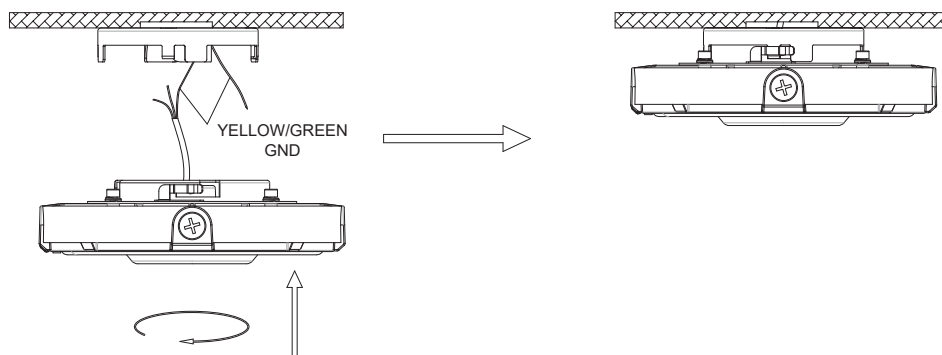

Figure 5
3. Fix the Plate Bracket on the ceiling with a screwdriver (Figure 5).
5. Align the fixing plate bracket with the hole on fixture (Figure 5) and push the fixture into it and turn to fix it as the direction of arrow.